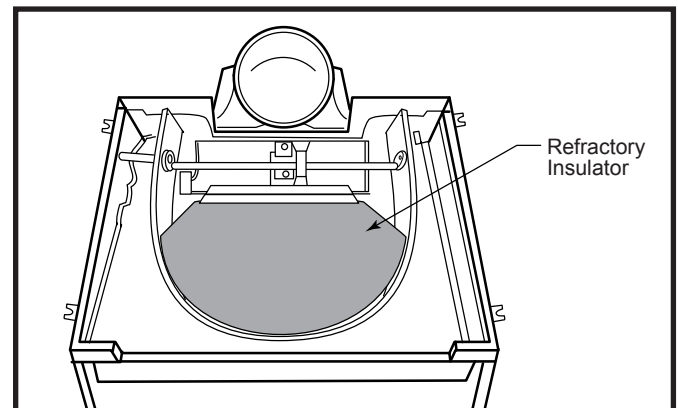

Fig. 2 Remove the refractory insulator.
5. Lift out the decorative front brass bar, the refractory insulator and the catalyst. (Figs. 2 and 3) Be careful with the catalyst, as it is fragile. Place the insulator in a sealed plastic bag pending disposal. Check the combustor for major cracking or crumbling. Refer to the stove manual for details on evaluating the catalyst.